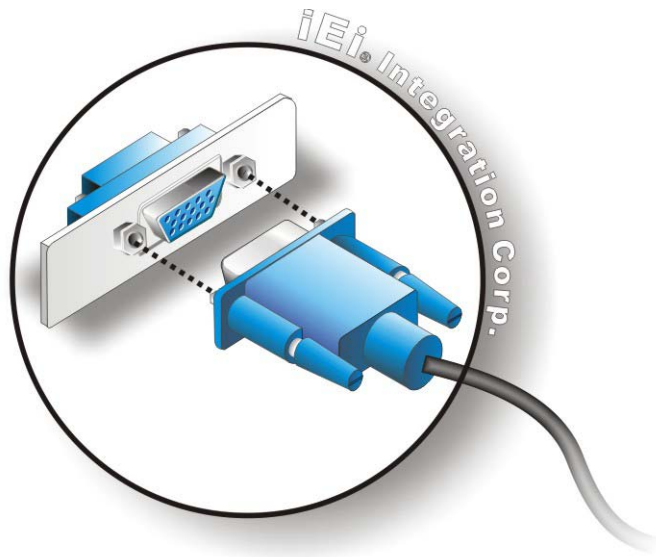

Figure 4-12: VGA Connector
- Step 7: Insert the VGA connector** Once the connectors are properly aligned with the insert the male connector from the VGA screen into the female connector on the NANO-KBN-i1. See **Figure 4-12**.